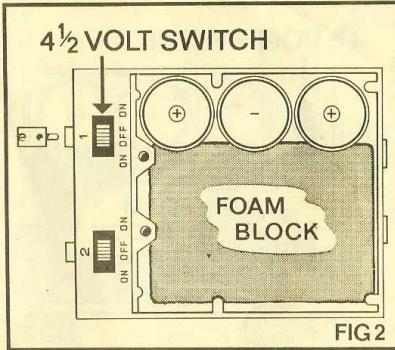

FIG 2
- If the power required is 4½ volts then only 3 batteries need be used and they should be placed in position shown in Fig. 2; the remaining space in the box being filled by the foam block supplied.